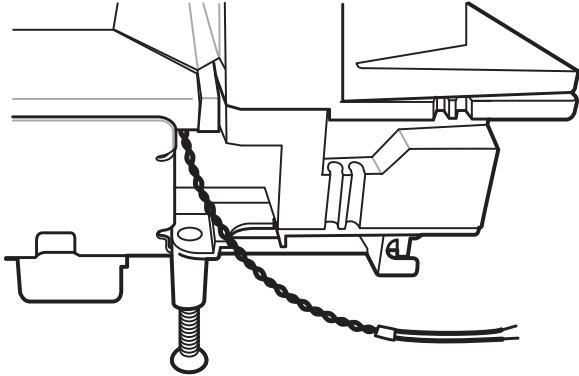

Figure 3-28 *Antenna Leads for Checkpoint Controller Connection*
- The horizontal Checkpoint antenna should be set into place in the middle housing of the MP70XX, under the platter, and the antenna leads for controller connection should be placed as shown in Figure 3-28. (See page 1-10 for cable routing.)
4. Route the antenna leads, with partly-stripped ends, as pictured in Figure 3-28 hanging several inches below the MP70XX so that the Checkpoint controller lead wires can tie into the antenna.